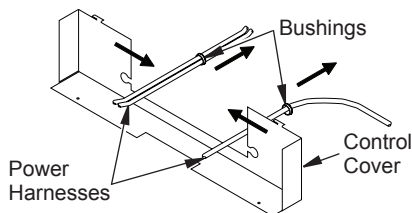

Figure 30 - Detaching Power Harnesses
6. Pop out bushings on control cover and slip power harnesses free from control cover (see Figure 30).